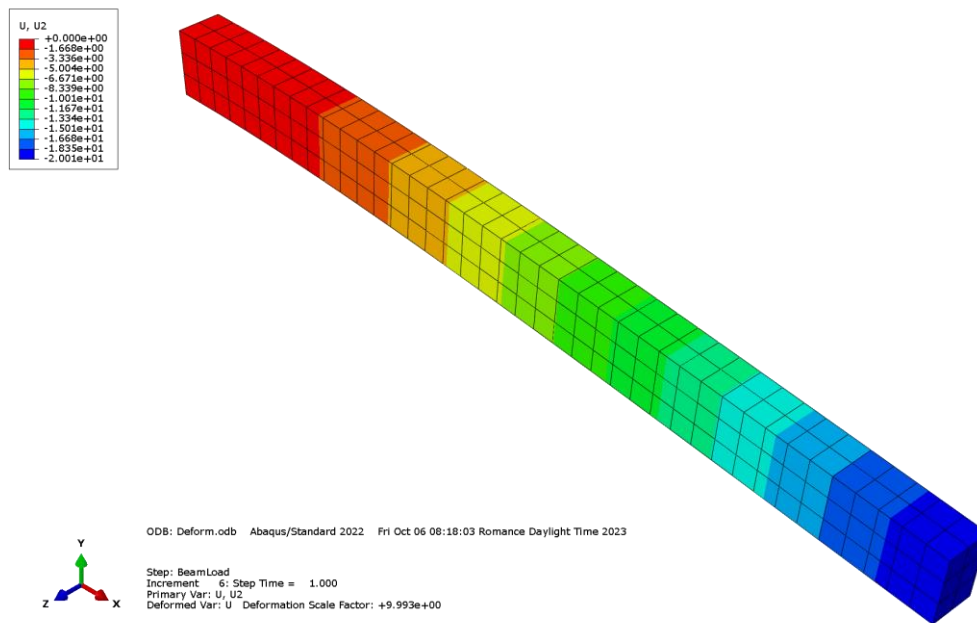

Figure 3: Displacement scale factor: 10.
- 2) Figure 3 shows a contour plot of the vertical deformation U2 on the deformed shape.